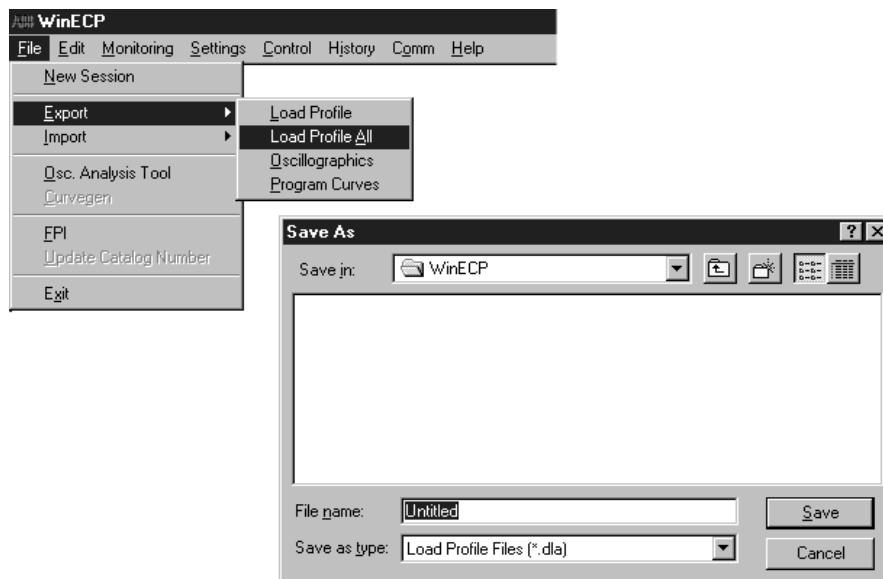

Figure 10-3. Load Profile Data Transfer
1. From the File Menu, choose Export (Figure 10-3). There are two Load Profile options from which to choose. The “Load Profile All” option will upload all the load profile data that is in the buffer. The “Load Profile” option will only upload the data that has been added to the buffer since the last upload. Choosing this option will reduce the transfer time if data was previously exported.
You can program the DPU1500R to capture eight, four, two or one record(s) containing 8, 16, 32 or 64 cycles of data. Thirty-two points per cycle for each of the seven analog inputs, the 52a (XO) and 52b (XI) contact inputs and numerous protective and logic functions are stored in each waveform record. The capturing of waveform data can be triggered when the trip output is actuated, the breaker is opened or the waveform capture input (WCI) is initiated. You can also program the DPU1500R to trigger the capturing of waveform data on trip of the following functions: 50N-1 (IN>>1), 50P-1 (3I>>1), 50N-2 (IN>>2), 50P-2 (3I>>2), 50N-3 (IN>>3), 50P-3 (3I>>3), 51N (IN>), 51P (3I>), 46 (Insc>), and 27 (U<) (see Figure 10-3). To provide as many cycles of pre-fault and fault data as possible, you can program the trigger position at any quarter-cycle within the fault record. The time stamp of a waveform record is captured at the time of trigger.